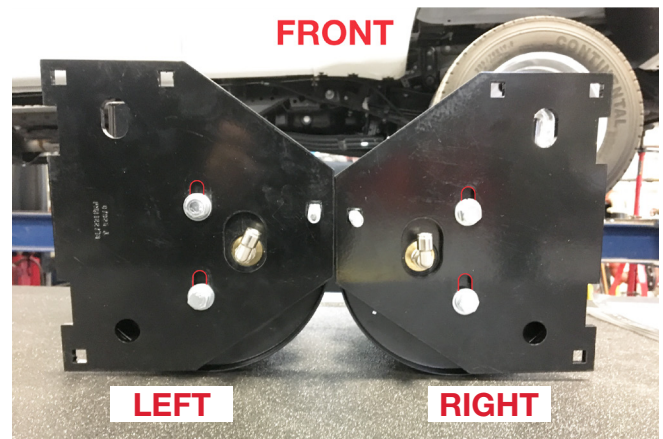

Fig. 8
2. Insert 3/8"-16 x 1" carriage bolts (DD) into the square holes on the brackets, then secure the upper air spring bracket (E) onto the top of the air springs using 3/8"-24 x 7/8" hex bolts (W), 3/8" lock washers (X) and 3/8" flat washers (R). At this stage, the air spring assemblies are left- and right-hand units. Push the brackets as far forward as possible (Fig. 8). Torque the hardware to no more than 20 lb.-ft. (27Nm).